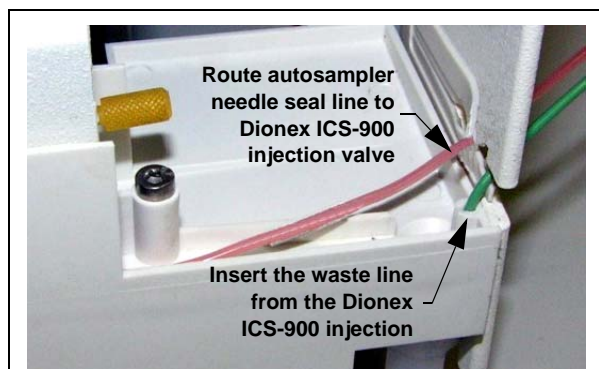

Figure 3. AS Autosampler drip tray
2. Route the needle seal line that extends from the inject port in the AS through the autosampler right side slot (see Figure 3) and then through the Dionex ICS-900 left side slot to the Dionex ICS-900 injection valve.
- d. Push the end into the small round opening on the right side of the AS drip tray (see Figure 3).